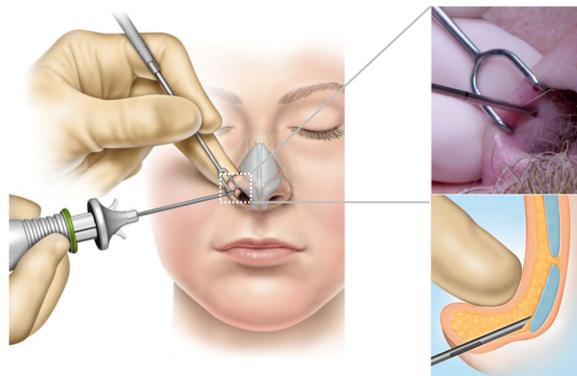

Figure 8: Images showing the approximate *Delivery Device* orientation, cannula trajectory and pierce point.
- The ala may be everted using a double prong skin hook under direct visualization. Ensure the cannula bevel and reference mark is facing medial before pierce. Insert the *Delivery Device* cannula perpendicular to the septum through the nasal vestibular lining of the lateral wall until the tip reaches the caudal aspect of the lower lateral cartilage. The cannula reference mark may be used as an aid to determine insertion depth. Approximate *Delivery Device* orientation, cannula trajectory and depth are shown in **Figure 8** below.